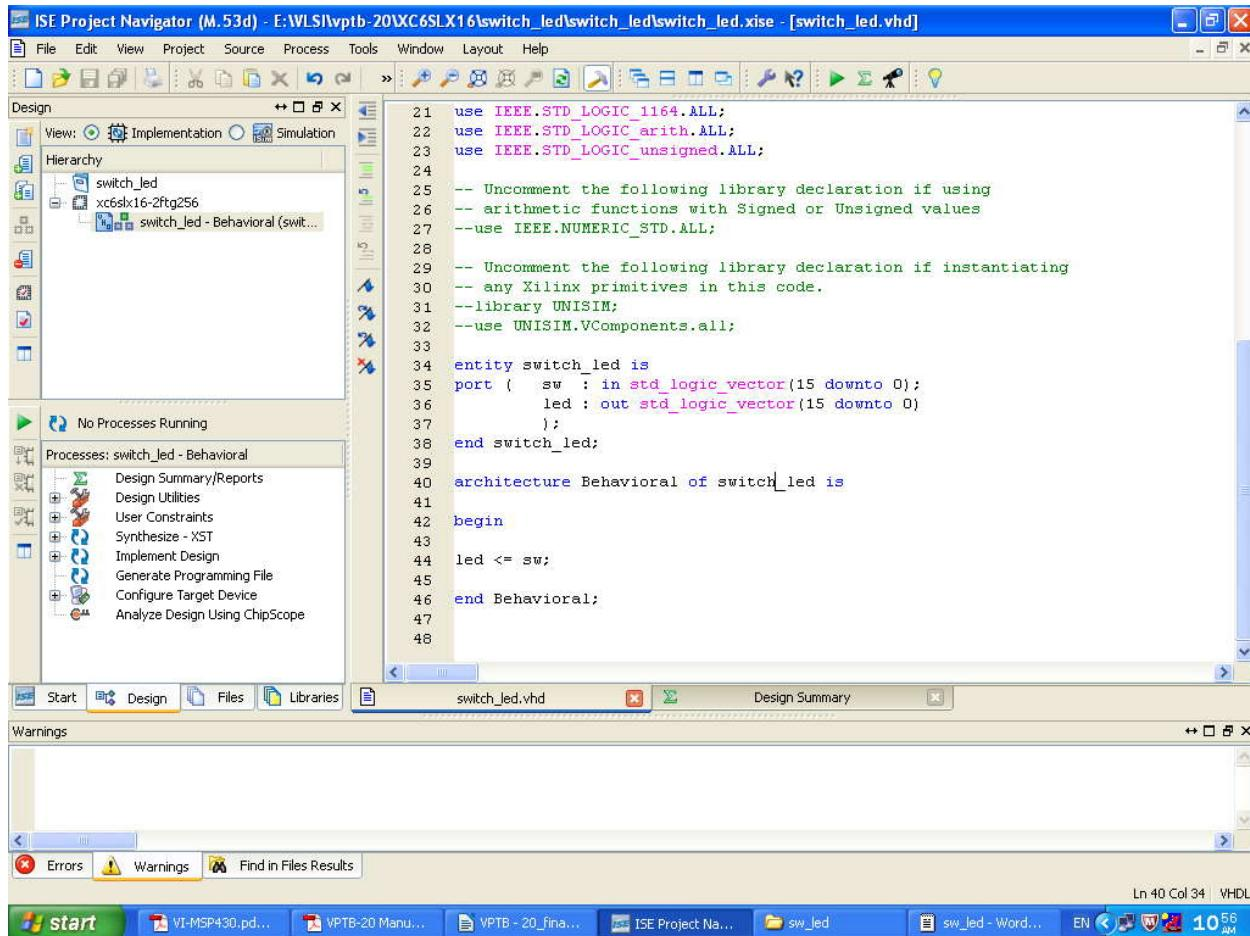

Figure-16
7. You can type your VHDL code in the right side of window and save the code by pressing the save button in the tool bar of the ISE window (refer **Figure-16**).